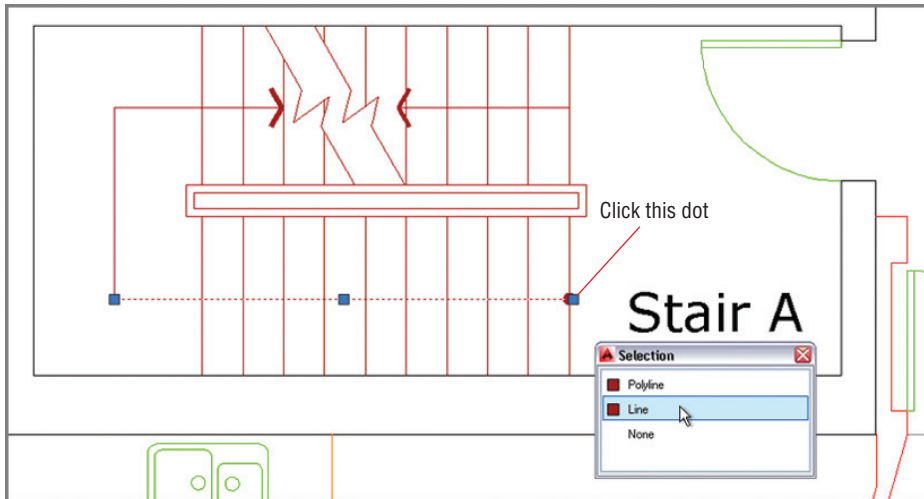

FIGURE 4.8 Selection cycling
11. Click the dot at the end of the stair direction line (shown in Figure 4.8). This dot is at the confluence of the horizontal stair direction line and the vertical tread line. When Selection Cycling is on, you are presented with the Selection dialog box whenever your selection is ambiguous. Hover the cursor over the items in the list and each one's grips are highlighted on the drawing canvas. Select the line in the list that highlights grips on the stair direction line as shown in Figure 4.8 and then press Esc.